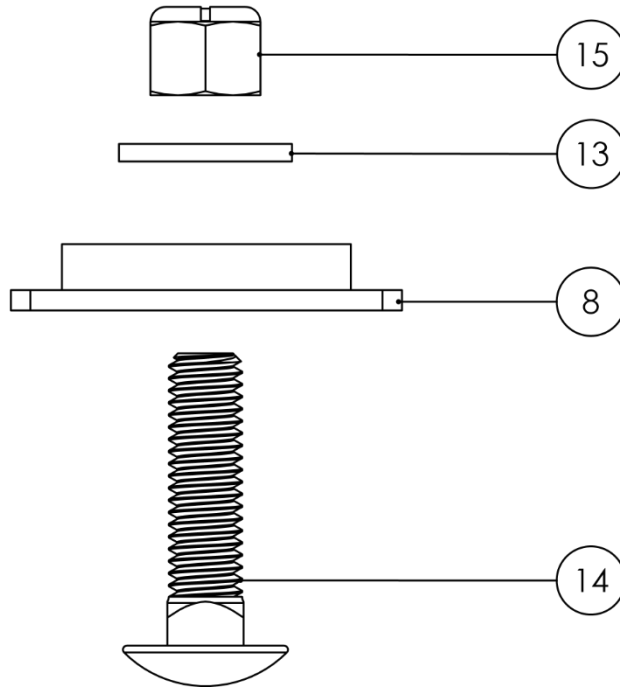

Figure 1
1. **Install the Stake Pocket Insert Plates.** To install the Bases (Item No. 6) you must first install the Stake Pocket Insert Plates (Item No. 8). The parts of this bolt assembly will be put together in the order as shown in Figure 1. Combine these parts but allow space for the Base (Item No. 6) by leaving the Lock Nut (Item No. 15) at the end of the Carriage Bolt (Item No. 14). Once this bolt assembly has been put together, insert the Stake Pocket Insert Plate (Item No. 8) into your truck's stake pocket by tilting the plate diagonally.